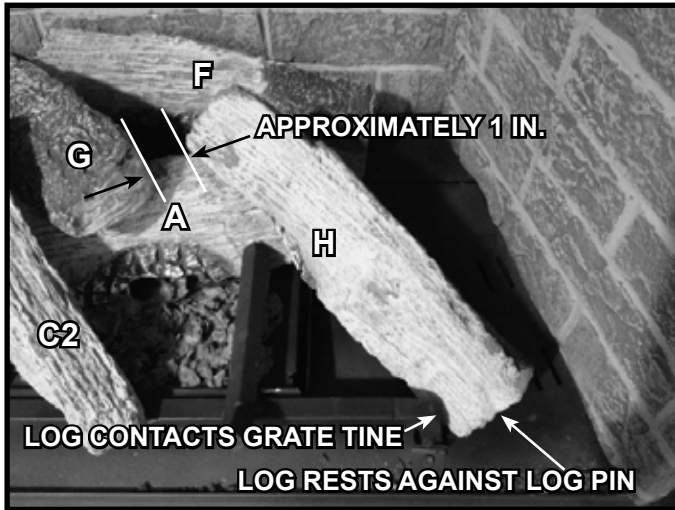

Figure 13. Log H Installed
9. **(LOG H):** Locate the pin for Log H in Figure 4. Place Log H into the appliance as shown in Figure 13. The base of the log should rest against the log pin and also contact the grate tine. The top of Log H will rest on Log A and be spaced about one inch from Log G.